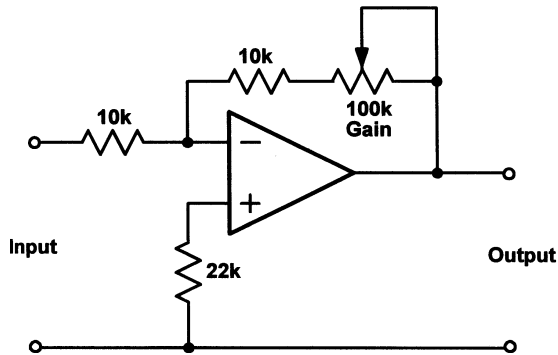

Figure 8.20
- 8.6 Determine the maximum and minimum voltage gain produced by the circuit shown in Fig. 8.20.